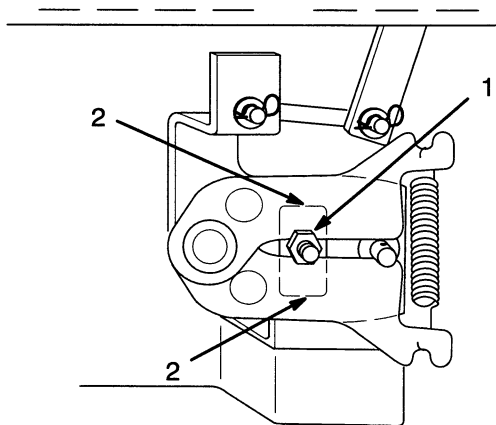

Figure 8
3. Loosen locknut securing adjustment (Fig. 8).
4. Move adjustment stud up or down until creep is minimized (Fig. 8). There may still be some wheel rotation with wheels off the ground.
5. Tighten the locknut (Fig. 8). Move the traction control pedal forward and reverse and allow it to center. Verify that there is no creep with the wheels on the ground.
After adjusting the hydro neutral position it is necessary to check the traction control pedal. While pressing the control pedal full forward and full reverse it must not contact the footrest pad before hitting the stop(s) at the transaxle (Fig. 8).
1. If contact is made with the foot pad, before hitting stop(s) on transaxle (Fig. 8), in either forward or reverse directions, adjustment is required.